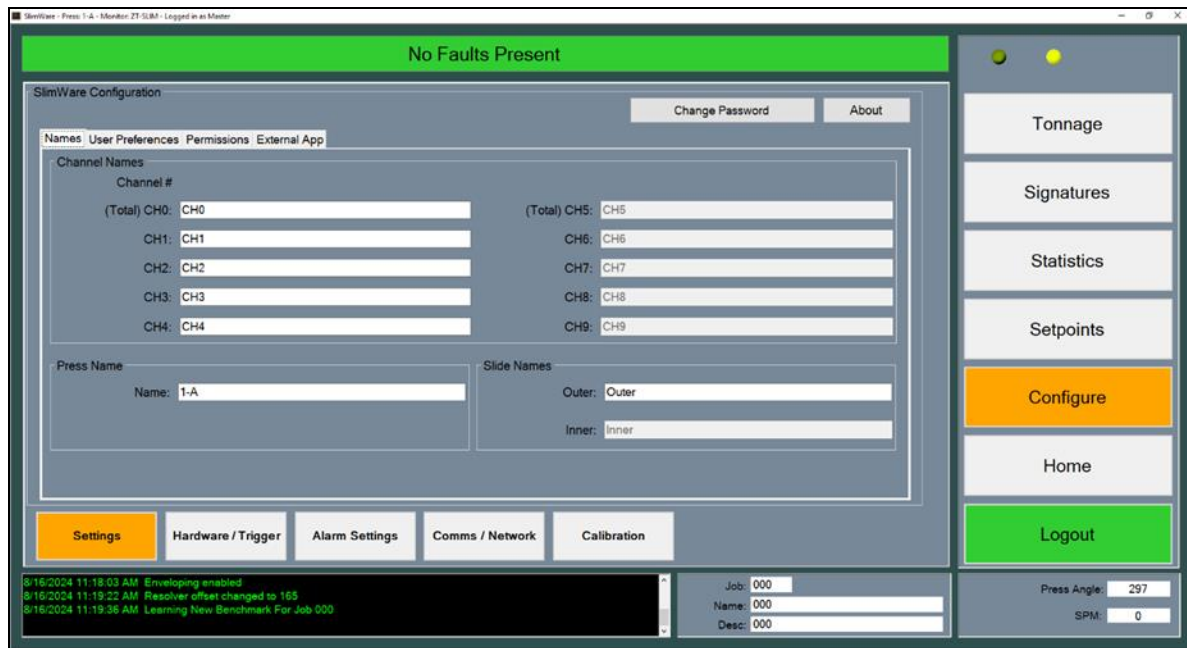

Figure 2-10: Configure Settings - Names Screen
Figure 2-10 shows the initial configure page (Settings). The Settings screen is split up into four different tabs (Names, User Preferences, Permissions, and External App). Use the buttons near the bottom of the configuration window to navigate to the different configuration menus.
- **Channel Names** – Each channel can be configured for a specific name. Type in the desired name and press “Enter” to save the name to the desired corner. The default names are shown in Figure 2-10.